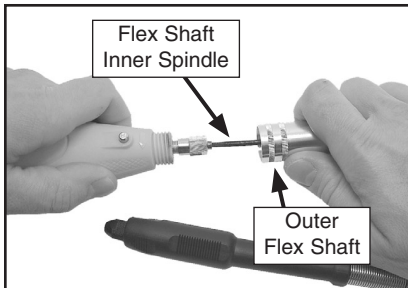

Figure 4. Flex shaft components.
3. Slide the inner spindle partially out of the flex shaft (see **Figure 4**).